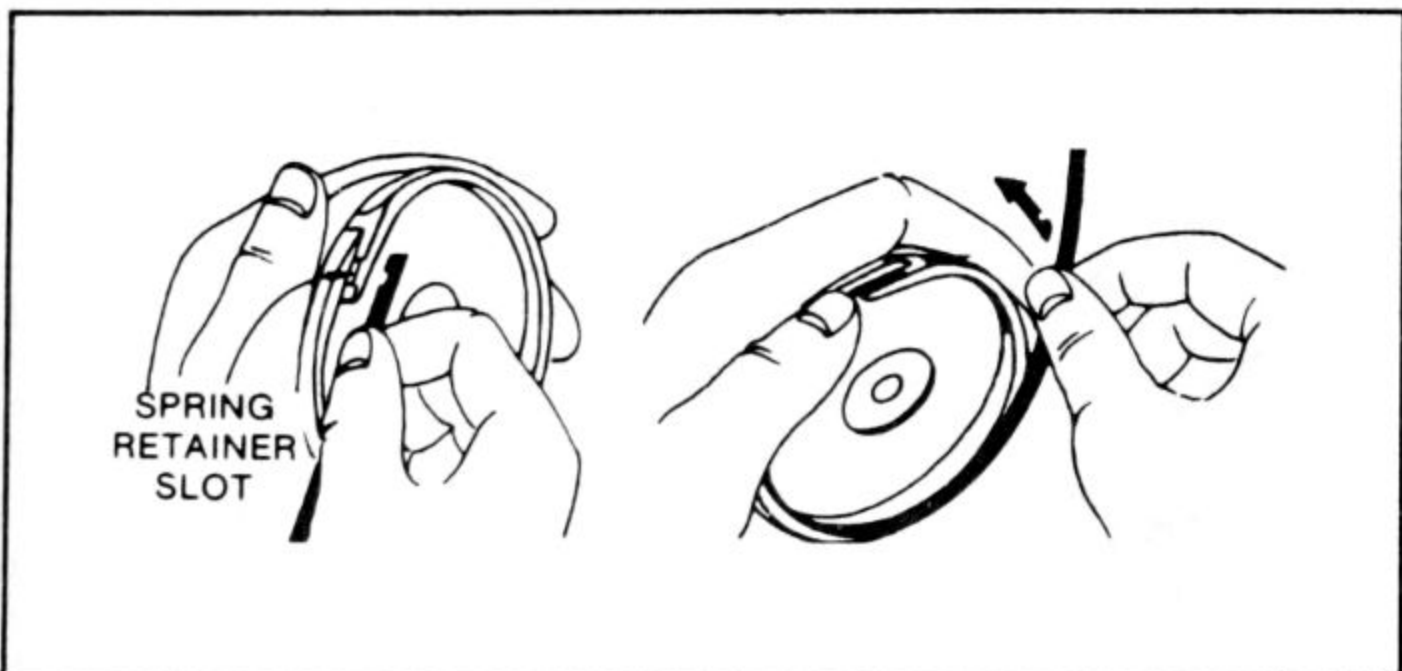

Fig. 4-25. Mainspring winds counterclockwise from outer coil.
1. Install the outer end of mainspring in housing retainer slot and wind counterclockwise (Fig. 4-25).